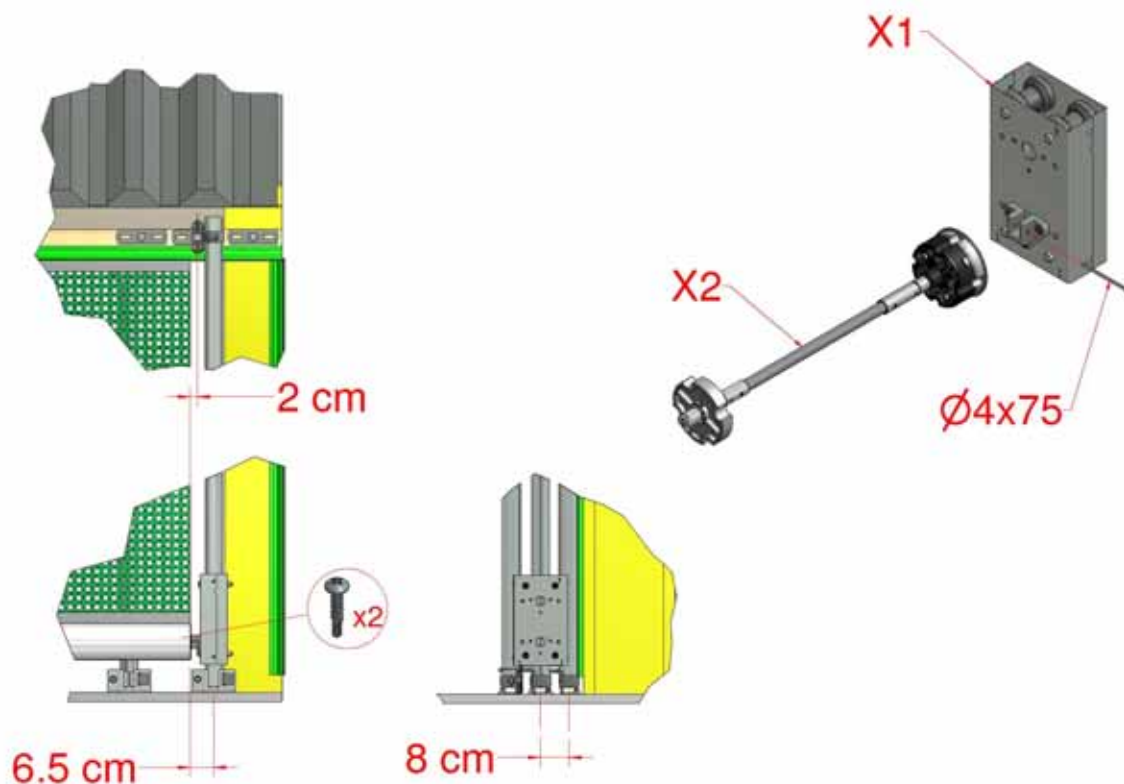

Figure 24, Free End trolley Box
- 6.1 To fit the optional free end Trolley Box fit the additional Face Bracket(s) (E1) to the Free End, see Section 2.1. The end of the Bottom Rolling Tube needs to finish 2cm from the centre of the upper Face Bracket (E1) or 6.5cm from the centre of the Torque Tube as in Figure 24.
- 6.2 For Face-Face installation pre-drill the holes into the floor for fixing so that the Torque Tube is centred 8 cm from the centre of the inner Control Tube, Figure 24. Slide the free end Shaft into the end of the Bottom Rolling Tube and secure with two M4.2x19 self drilling screws.